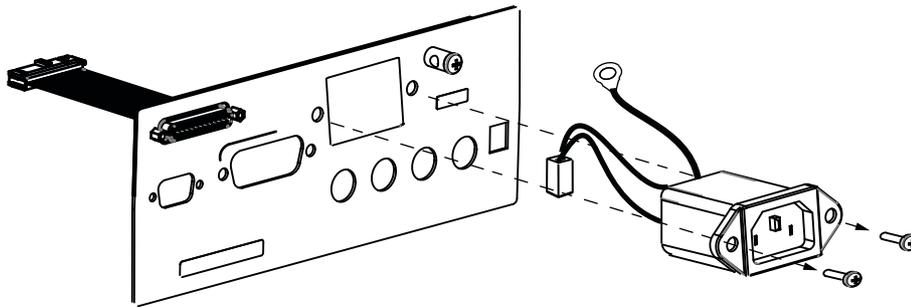

Figure 7-12. Remove AC Line Filter
2. Remove the two Phillips screws as shown in Figure 7-12.